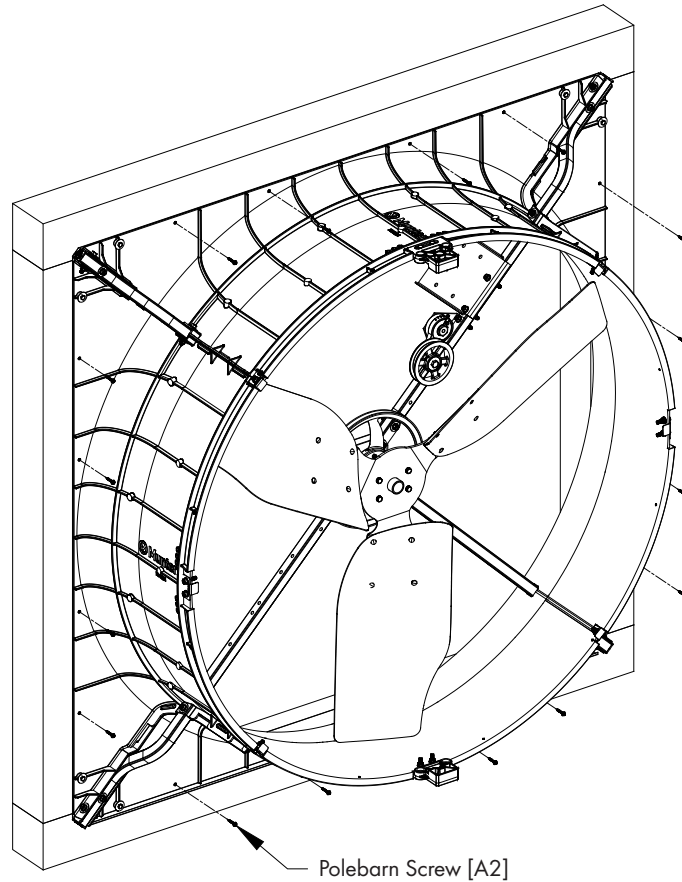

Figure 14
Secure each side of the Orifice Panel to the framing using (16) Polebarn Screws [A2]. See Figure 14.